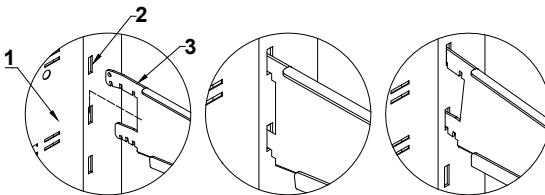

Fig.3 Mounting the hook in the rack frame
1. Mount the hook system on rack frames Fig. 3 (p.12)